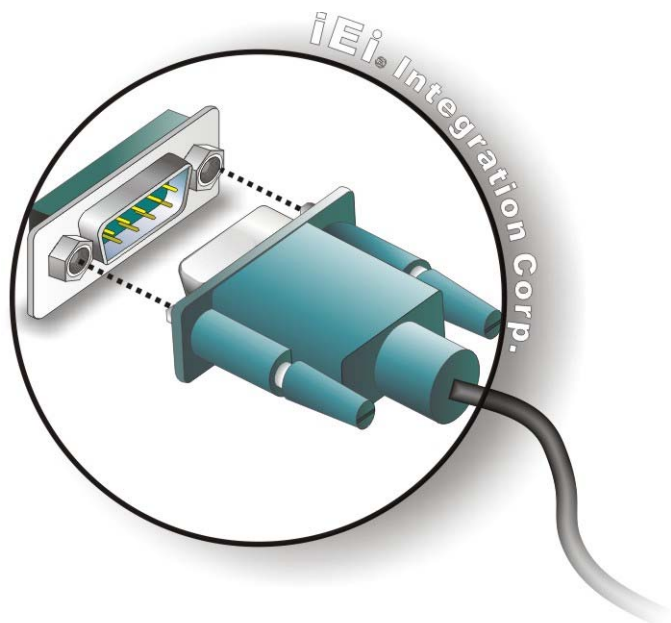

Figure 4-11: Serial Device Connector
Step 2: Insert the serial connector. Insert the DB-9 connector of a serial device into the DB-9 connector on the external peripheral interface. See Figure 4-11.